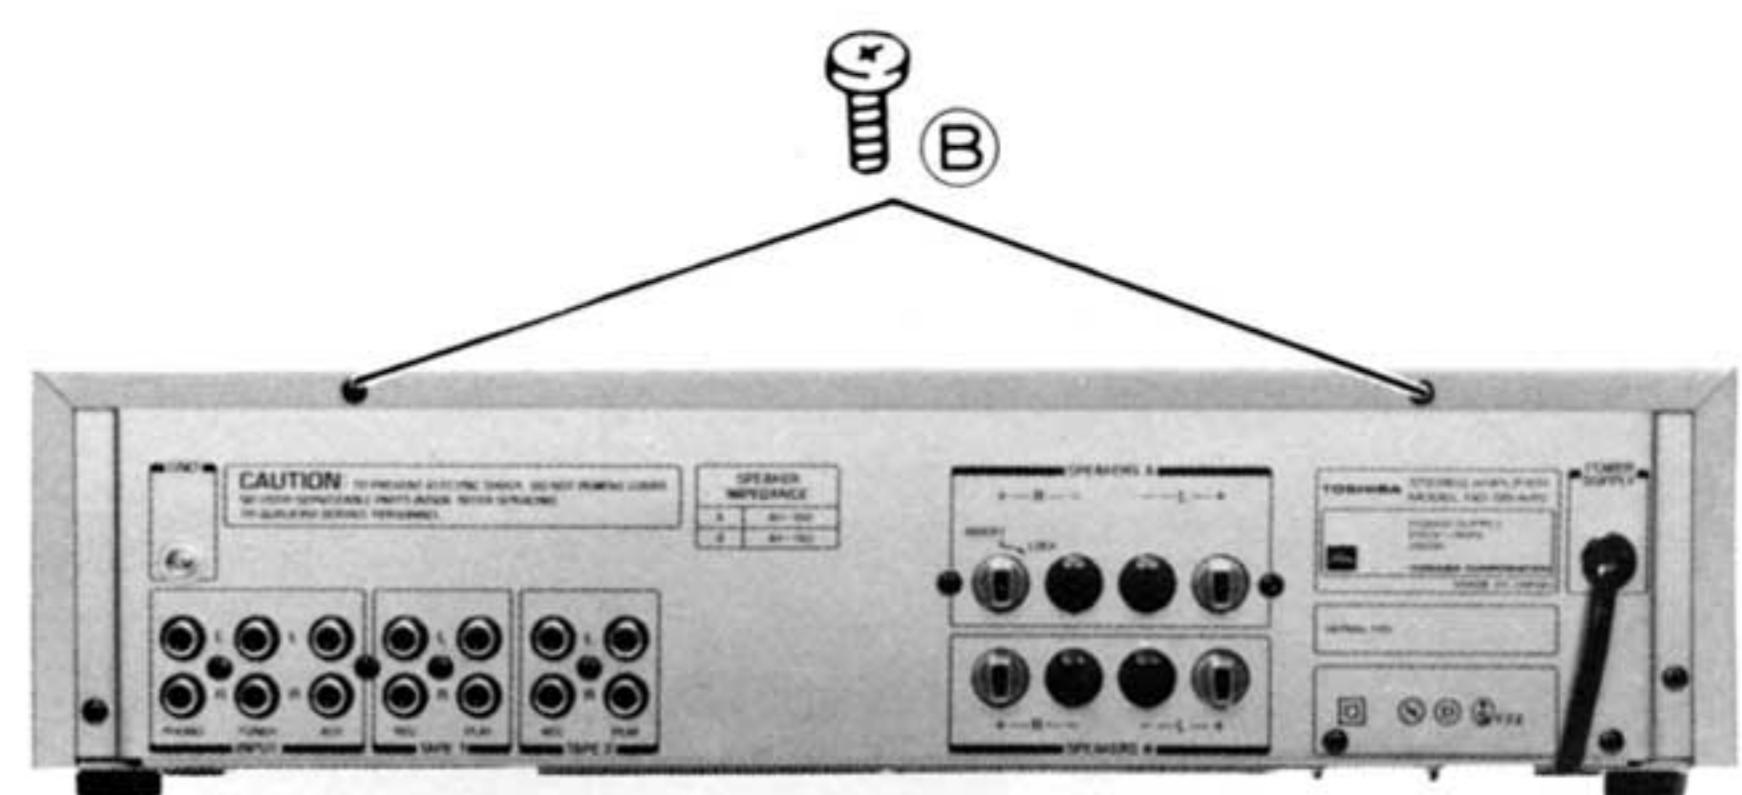

Figure 6
- 2 Remove two screws **B** ($3\phi \times 8\text{mm}$) holding the top cover, then the Jack plate can be removed. See Figure 6.